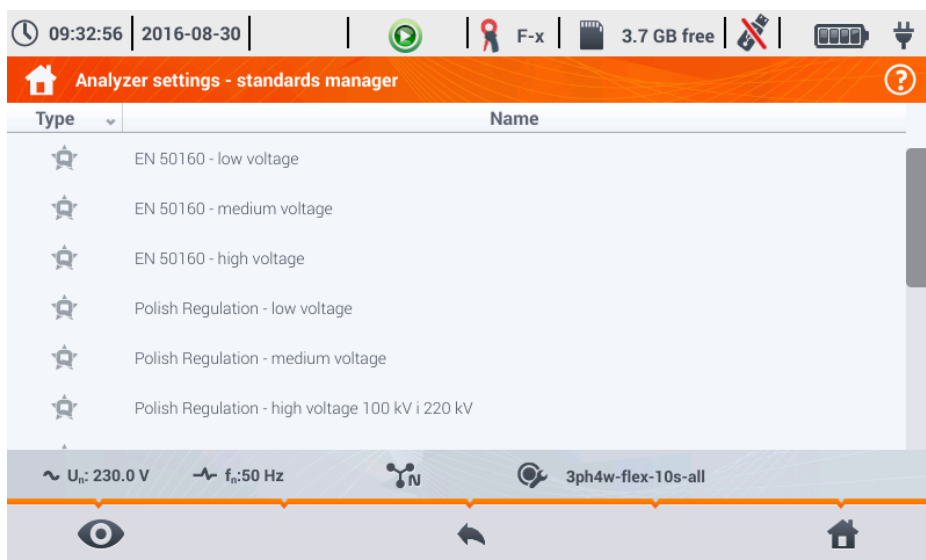

Fig. 17. Analyzer settings - Standards manager.
- **STANDARDS** – after selecting this option, a window is displayed, as shown in Fig. 17. This window shows a list of standards profiles stored in the internal memory of the analyzer that are used to generate the compliance reports.